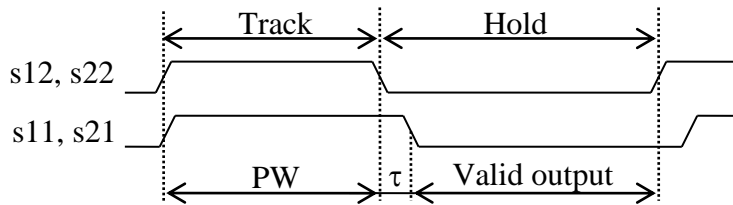

Fig. 3. Sampling Diagram
The input clock buffer converts the external clock `c1p/c1n` and `c2p/c2n` into two pairs of internal signals `s11/s12` and `s21/s22` with controlled pulse width (PW) and delay ( $\tau$ ) between them as shown in Fig. 3.